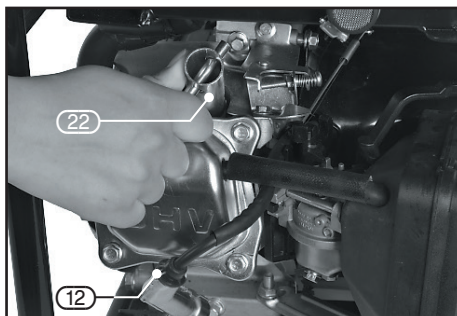

FIG.18
## 11.4 SPARK PLUG – FIG. 18
## 11.5 CHECKING OIL LEVEL & CHANGING OIL – FIG.18
- Check the dip stick; make sure the oil level is between 'high' and 'low' marks, as shown in Fig.18.